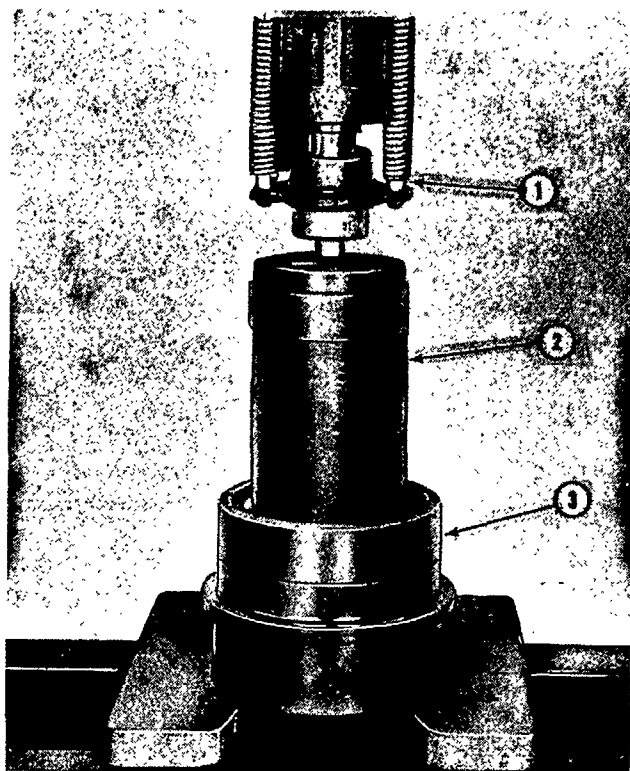

Figure 23
6. Install the remainder of the unit in a press, Figure 23, with the output hub upward.